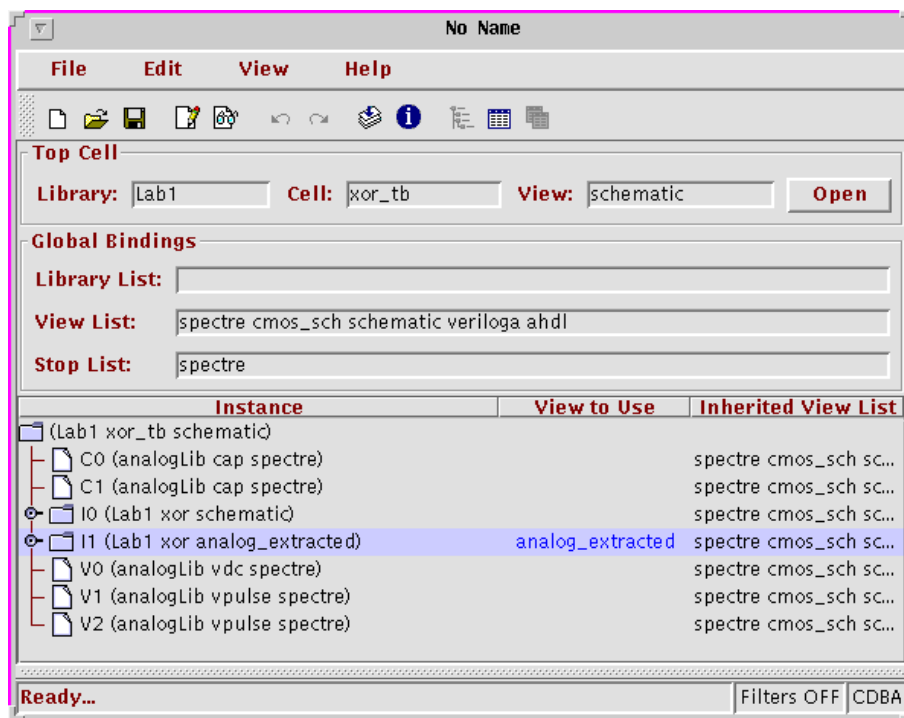

Figure 6.4: The Hierarchy Editor.
3. A tree structure presentation is usually preferable and the window is changed by *View > Tree*, after which it should look like the one in fig. 6.4.